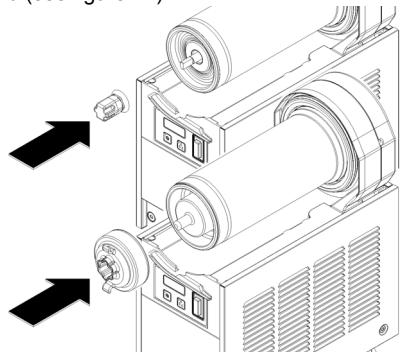

figure 12
- 5 Insert the magnetic outside rotor in the evaporator taking care to accompany it to the end (see figure 12).